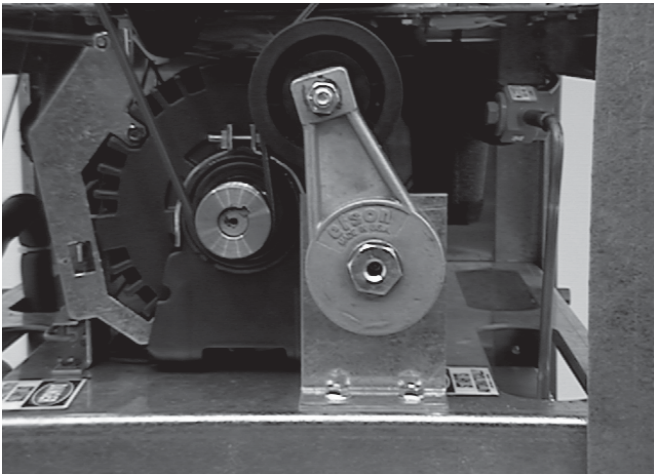

Figure 38. Belt Tensioner
5. Pull back belt tensioner and remove belt. Figure 38.